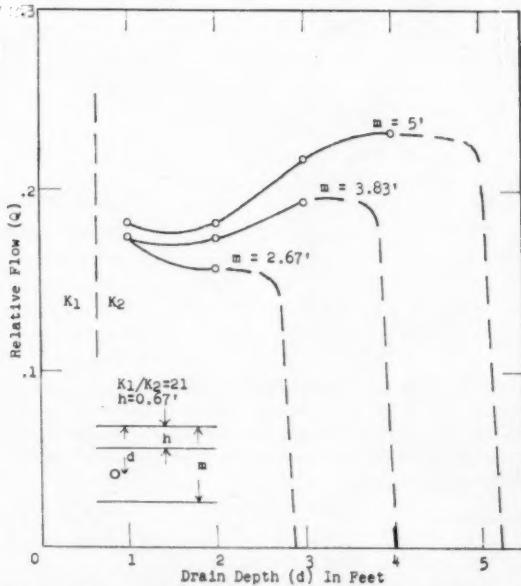

Fig. 3 Effect of drain tile depth on inflow for a spacing of 12 ft
A series of tests was run to determine the effect of drain depth and spacing on the relative flow to a 4-in. open drain through a two-layered soil. The results are shown in Fig. 3 for a spacing of 12 ft. For these same conditions the spacing was increased to 30 ft, but the increase in flow was less than 4 percent. Kirkham (4) developed a theoretical equation for a two-layered soil, but it could not be compared di-
Fig. 3 The moldboard of the plow shown is covered with a sheet of Teflon TFE resin, which permits easier, more efficient plowing of colloidal soils, since they will not adhere to the moldboard. Also plowing time and power required are greatly reduced
Typical farm applications of Teflon resins include the coating of plow faces for improved efficiency in the colloidal soils of Hawaii (Fig. 3), trough linings, conveyor chutes and belts for handling sticky silage or locations where dirt and plant juices accumulate, paint spray hose, barn cleaners, feed hoppers, and storage bins. The fact that ice does not stick to Teflon resins can assist in eliminating cold-weather freeze up of parts on equipment that must operate in all weather conditions.